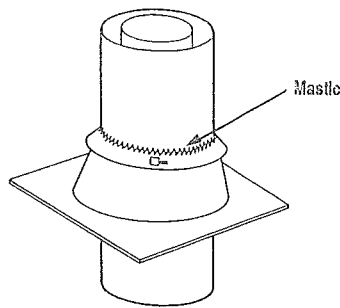

Figure 31
Step 8. The standard Superior roof flashing assemblies include a storm collar. Slide storm collar over outer chimney, align with top surface of flashing, insert storm tab in slot, pull tight and bend tab back over slot. Seal storm collar to outer chimney with roof caulking or mastic around entire circumference of pipe. Also add extra roof caulking where storm collar meets flashing and to the tab/slot area to seal completely against water penetration (Figure 31). Check all joints very carefully to ensure no water intrusion can take place.